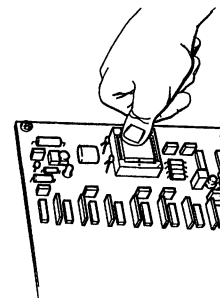

Figure 8 Press Firmware 081004 in Socket (typical)
- b. Press IC into place. See Fig. 8. When properly installed, IC will be flush with top of socket.